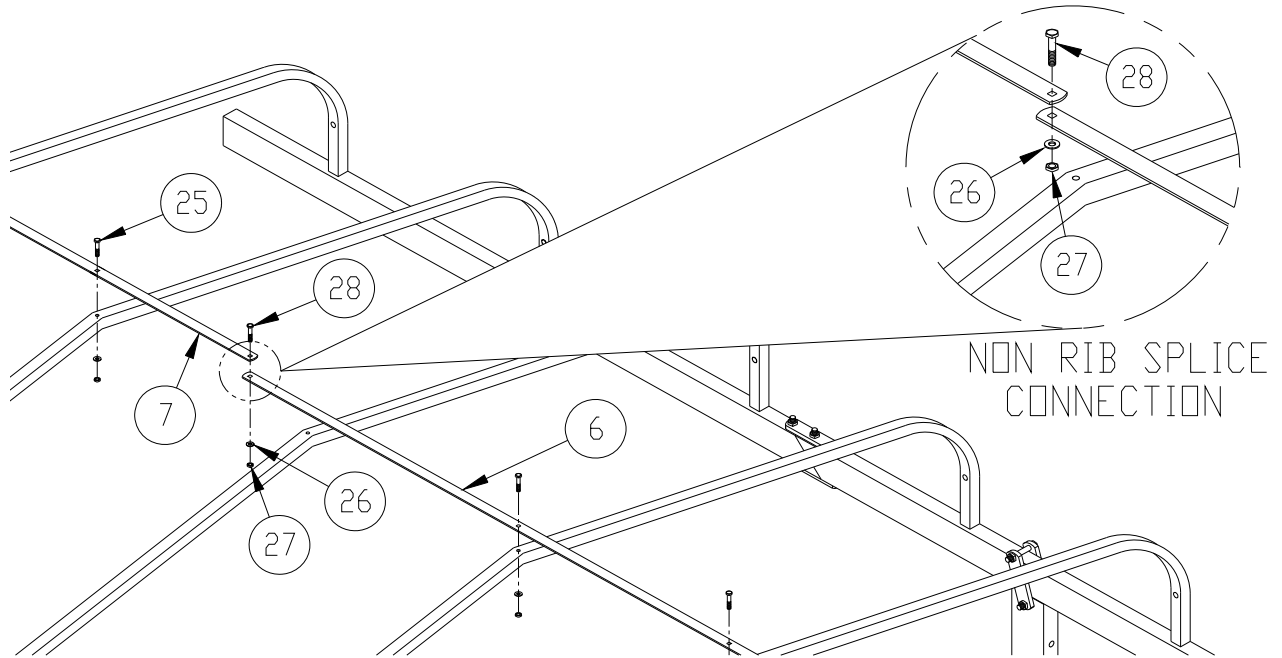

Figure 2-5.
7. Install plastic caps (17) into the canopy frame end caps (4) to prevent fabric abrasion.
8. Install the canopy ribs (5) by sliding them onto the canopy rib bushings.
9. Refer to **Figure 2-5**. Assemble canopy end center band (6) on top of the ribs with hardware shown. Center band splice connection requires use of shorter hardware as shown. This will provide a uniform lay of the fabric.